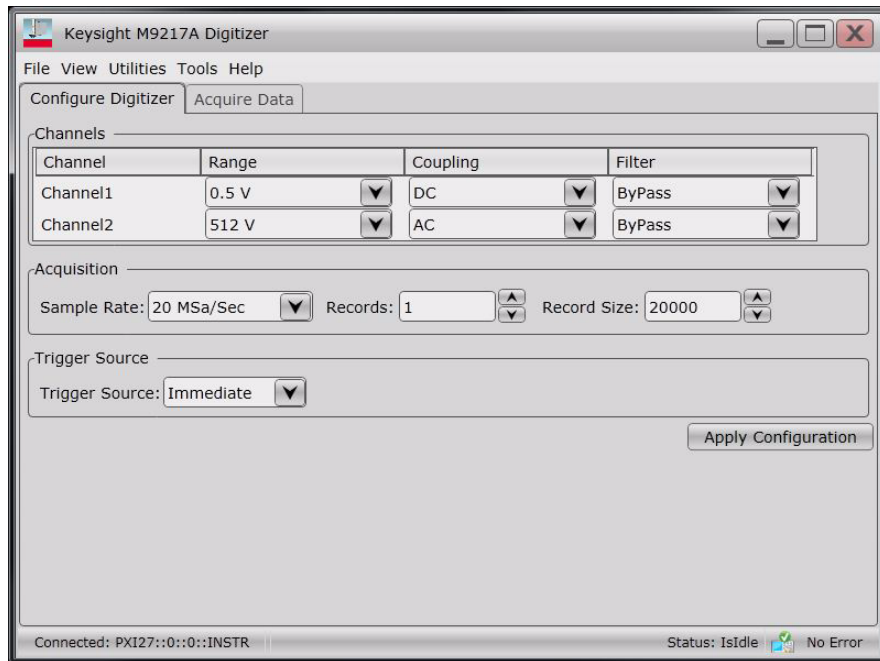

Figure 9 Configuring the digitizer
- 3 Configure the digitizer using SFP as shown in **Table 3** or **Figure 9**.